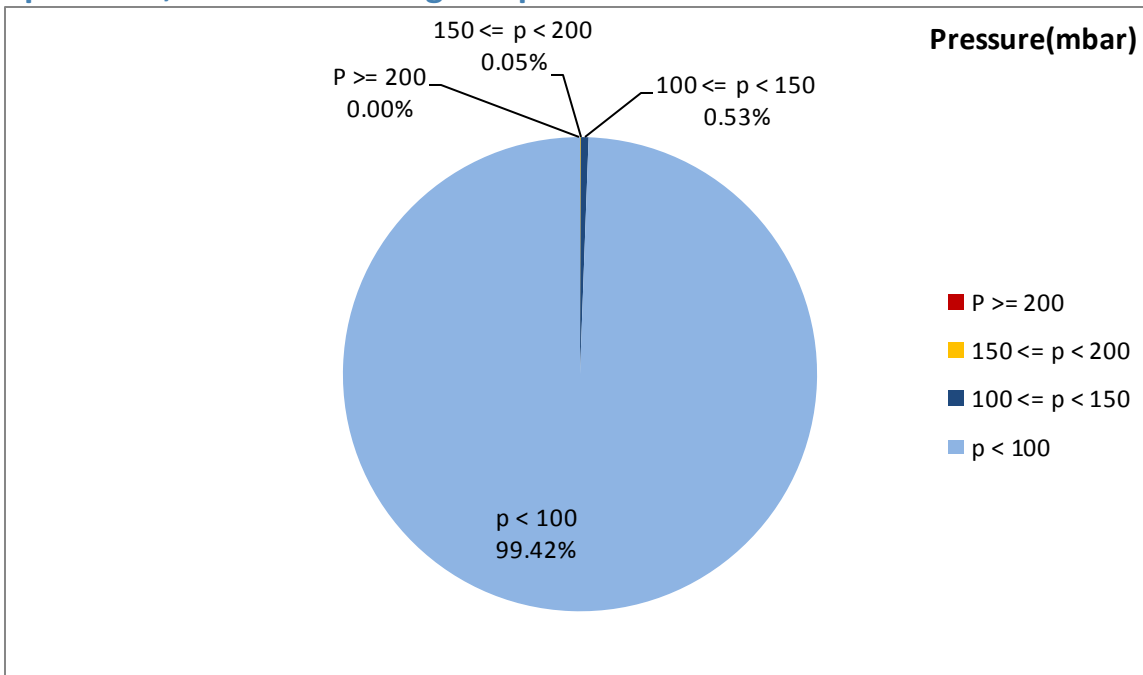

Figure 1- Pressure distribution over the working hours
- As depicted in figure 1, only 0.05% of total working time pressure was above 150 mbar during this period. This low pressure distribution was due to filter cleaning on Oct 5th.